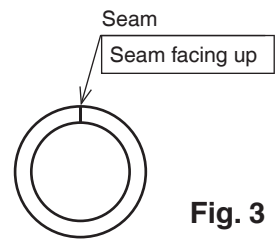

Fig. 3
- Wrap insulation material with the seam facing up. (Refer to Fig. 3)